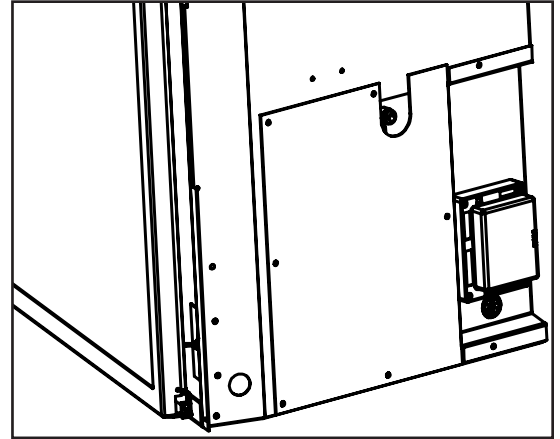

Figure 31: Gas Connection Location.
- A 3/8" 45° flared fitting and flex connector are supplied with the unit (see Figures 31 and 32). Consult the local authorities for local codes or use the CAN/CGA B149 (1 or 2) installation code in Canada. In the US, gas installations follow either local codes or the current edition of the National Fuel Gas Code ANSI Z223.1.
1. Using the supplied hardware install a Trimmable Panel Bracket, on its short leg, onto each side of the stove using a T-20 Torx screwdriver. See Figure 31 for the screw location and bracket orientation.